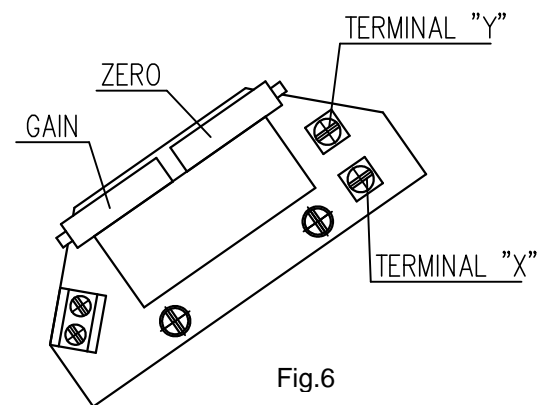

Fig.6
4.4.1 EPV – the 2-wire version (Fig. 6)
- Adjust the resistive transmitter according to the previous chapter. The resistance is to be metered on the terminals X-Y (Fig. 6). The used transmitter resistance is 100 Ω.
- Turn the adjusting trimmer ZERO (Fig. 6) to adjust the output current signal rate measured on the terminals 81-82 to 4mA.
- Turn the adjusting trimmer GAIN (Fig. 6) to adjust the output current signal rate measured on the terminals 81-82 to 20mA.
- Adjust the resistive transmitter according to the previous chapter. The resistance is to be metered on the terminals X-Y (Fig. 6).